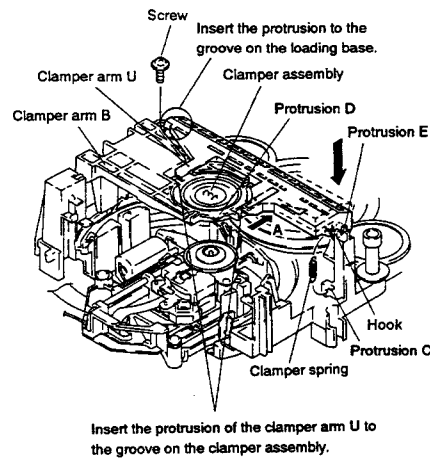

Fig. 2-7
- (2) As shown in Fig. 2-7, attach the clamber assembly to the clamber arm B so that the protrusion D of the clamber assembly may turn to the position as Fig. shows.
- (3) As shown in Fig. 2-7, insert the protrusion of the clamber arm U to the groove on the clamber assembly, and slide in the direction of the arrow A. Next, insert the protrusion of the clamber arm U to the groove on the loading base, while the protrusion E being pushed into the hook of the loading base.